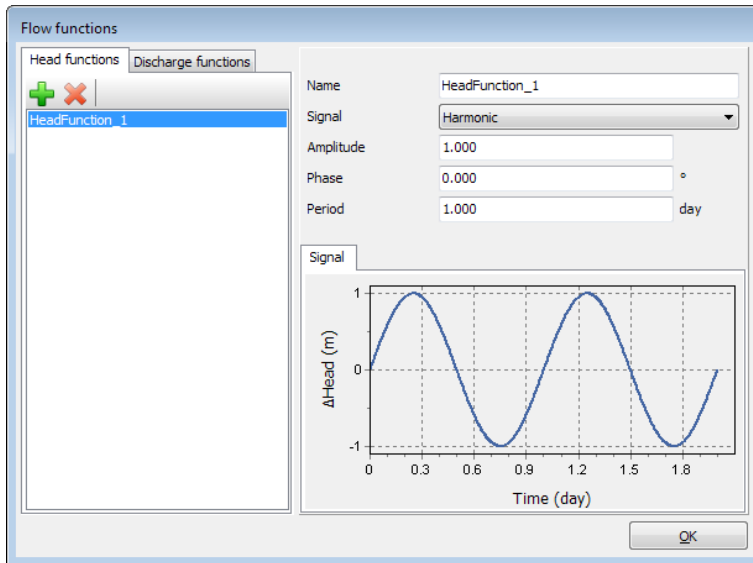

Figure 9.8 The flow function for the rapid case
- In the *Flow functions* window select the *Harmonic* option in the *Signal* drop-down menu. Set the amplitude to 1.0 m, the phase angle to 0° and the period to 1.0 day (Figure 9.8).